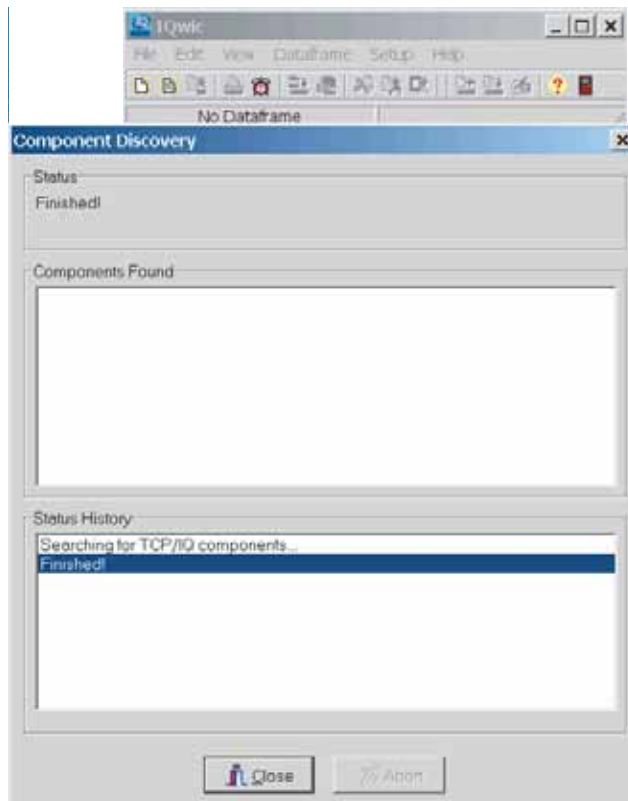

Figure 1.11 The Discovery Screen
4. The Component Discovery screen appears and displays the message, "Searching for TCP/IQ components" (Figure 1.11).